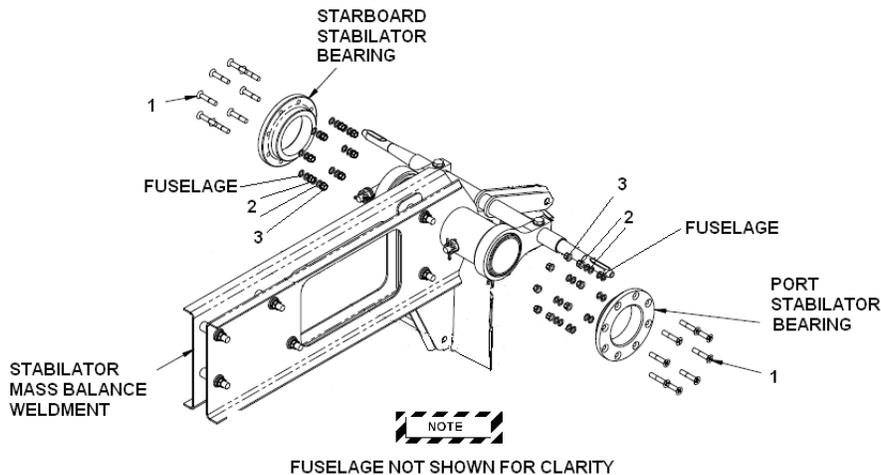

Figure 55-14 Stabilator Bearing Removal and Installation
2. Refer to Figure 55-14. Remove eight screws (1), washers (2), and nuts (3) from stabilator bearing and fuselage, noting positions of washers.
5. Refer to Figure 55-14. Install bearing using eight screws (1), washers (2), and nuts (3). Place washers according to positions noted during removal.